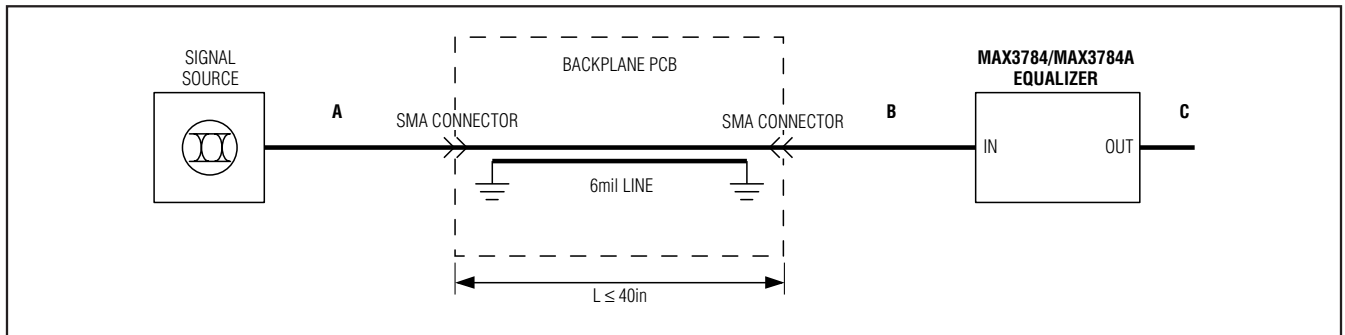

Figure 1. Test Conditions
**Note 3:** Difference in deterministic jitter between reference points A and C in Figure 1.
**Note 4:** Signal source amplitude range is 400mVP-P to 1000mVP-P differential. Signal is applied differentially at point A as shown in Figure 1. The deterministic jitter at point B must be from media-induced loss and not from clock-source modulation. Deterministic jitter is measured at the 50% vertical level of the signal at point C.